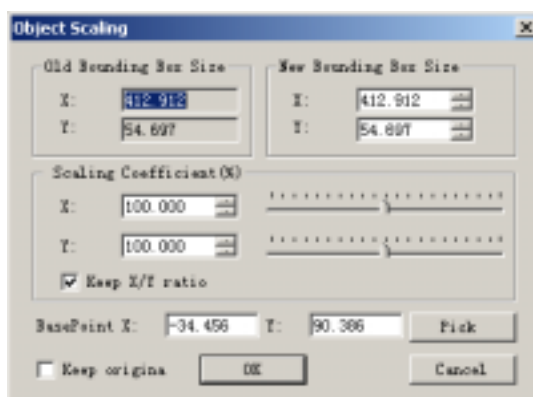

Fig. 5-15
2. The Scale dialog is displayed. (Fig. 5-15)